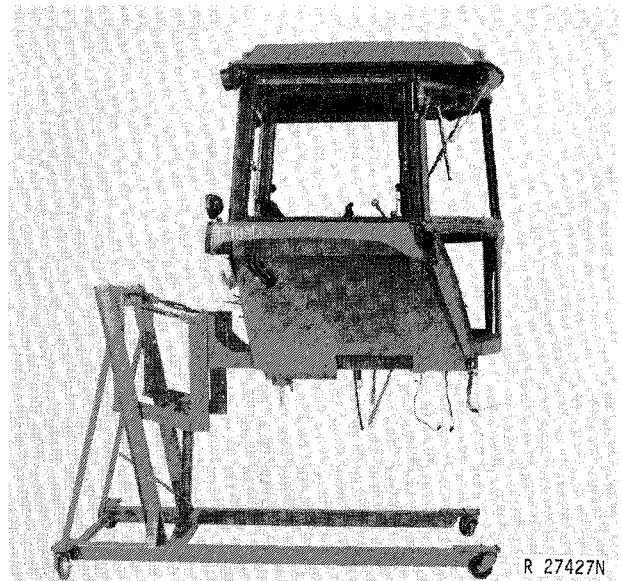

Fig. 11—Sound-Gard Body Removed from Tractor
37. Remove Sound-Gard Body and place on support stand (Fig. 11).